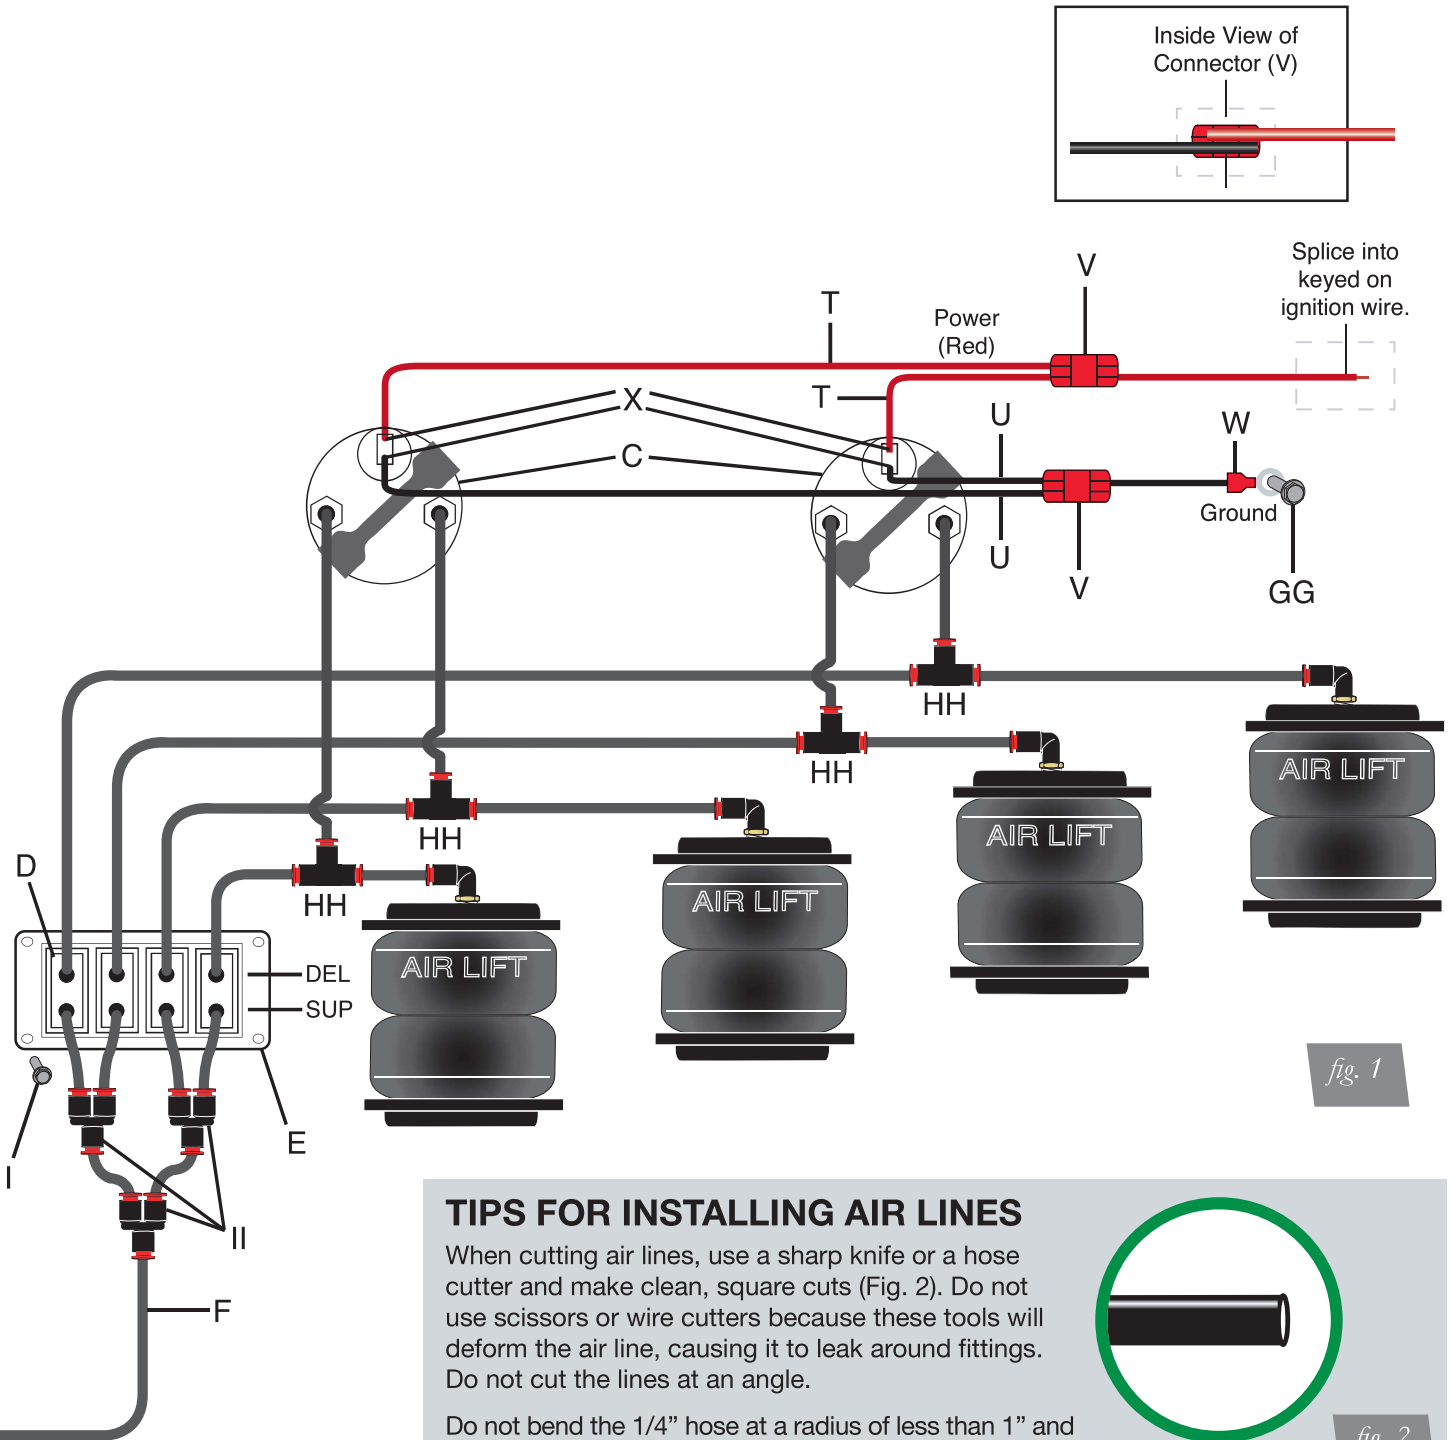

fig. 1
NOTE For a complete installation diagram, see fig. 1. (pages 8-9)
1. Prepare the compressor intake. If inside the vehicle, attach filter to port on end of compressor (fig. 1). If the compressor is located outside the vehicle, snorkel inlet filter to a dry location inside vehicle using components supplied with the compressor.
Tank pre-assembly (see fig. 1)
Tank install (see fig. 1)